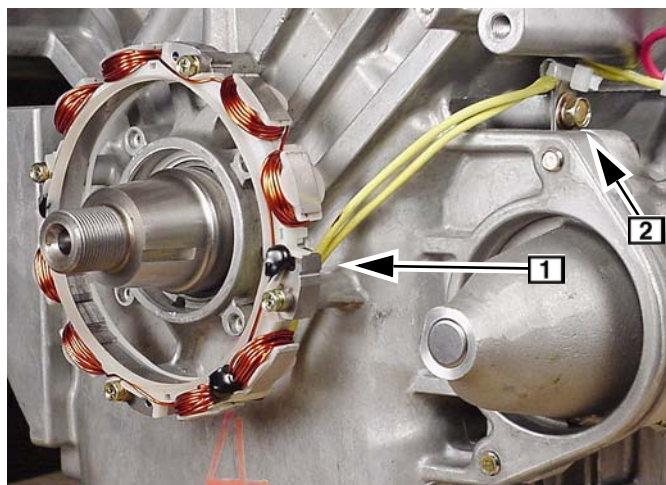

Fig. 150
1. Install alternator. Route wires behind mounting boss **1** as shown, Fig. 150. Torque screws to **30 in. lbs. (3.0 Nm)**.